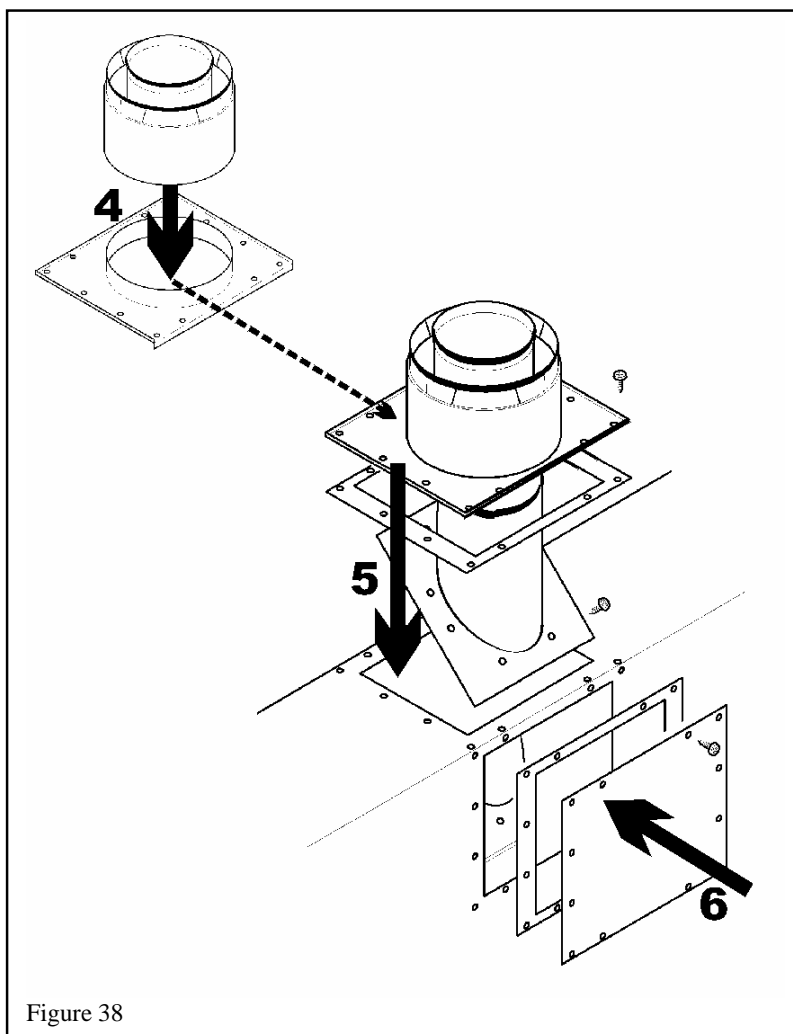

Figure 38
4. To make sure that the collars are axially aligned, fit the Dura-vent adapter #817VAK over the outer vent collar. See figure 38.
5. Position the inner collar and seal vertically inside the top of the appliance. Drop the outer collar with adapter over the inner collar to ensure alignment. Secure the inner collar with 8 screws and the outer collar with 12 screws. See figure 38.
6. Fit the plate and seal (which was previously removed from the top) to the back of the appliance with 12 screws. See figure 38.